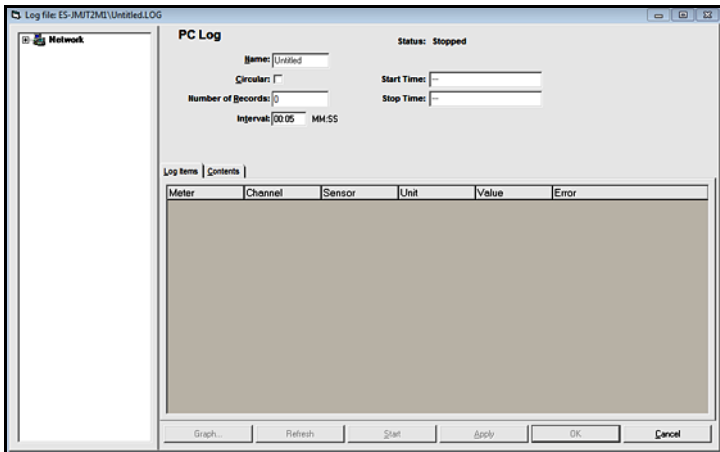

Figure 74: The PC Log Window
7. At the resulting “PC Log” window shown in *Figure 74* below, place a check mark in the text box to create a *circular log*, or leave this box empty to create a linear log.
8. Enter a sampling *interval* in the text box shown in *Figure 74 on page 93*, or check “*Max Comm Rate*” to sample data at the fastest speed allowable by the system (1 sec).
- Click on the “*Log Items*” tab (see *Figure 74 on page 93*) for a list of the parameters specified for logging).
- Click on the “*Contents*” tab (see *Figure 74 on page 93*) for a list of all the data points logged to date for the parameter currently highlighted on the “*Log Items*” tab).